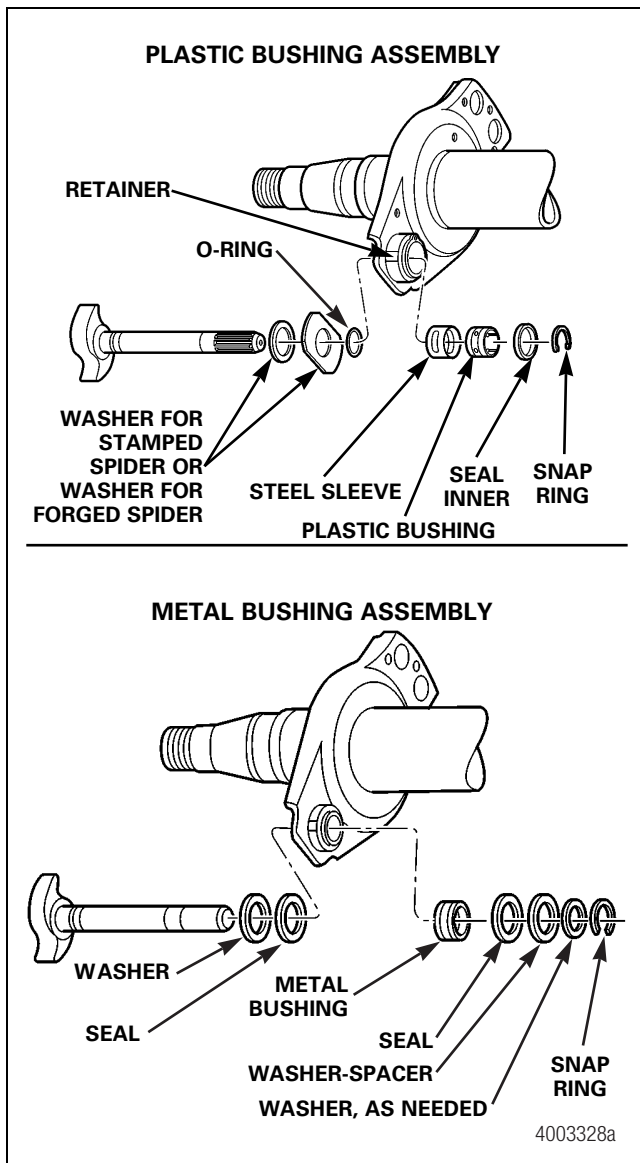

Figure 12.27
2. Remove all loose parts from the camshaft and retainer bore including the grease seals and washers. Figure 12.27.